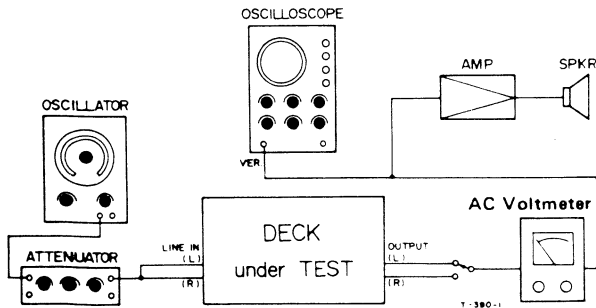

Fig. 6-6 Connection
3. Change the AC Voltmeter connection to the OUTPUT jacks (Fig. 6-6).
1. Connect the deck and the test equipments as shown in Fig. 6-6.